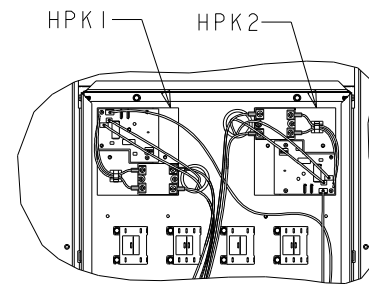

FIGURE 1
3. ROUTE WIRES THROUGH BUSHINGS NEXT TO THE CONTROL BOARD MOUNTING LOCATIONS INSIDE THE CONTROL BOX. SEE FIG. 1